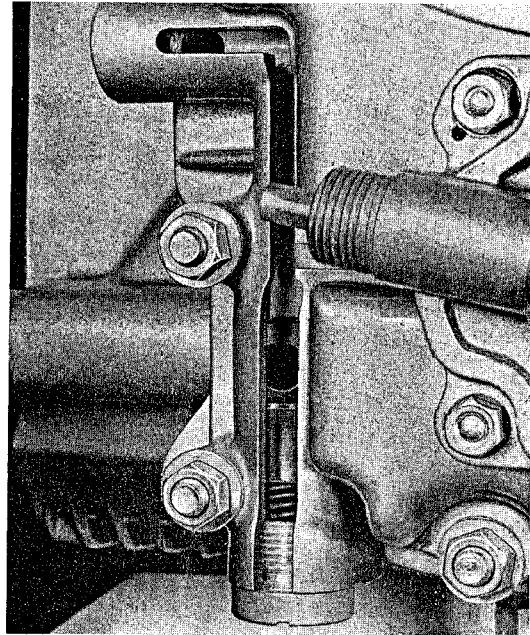

Fig. 112
- ① Oil passage to oil cooler
- ② Oil passage from oil pump
- ③ Oil passage direct to the lubrication points by-passing the oil cooler
- ④ Oil passage from back pressure line
With the engine not running the piston is in the closed position blocking oil passage (3) to the lubrication point. As soon as the engine is started, oil is drawn from the sump and forced into the by-pass valve chamber pushing the piston downward. The oil passage which passes directly to the lubrication points is then opened (Fig. 112).